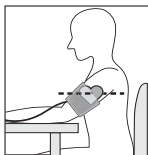

Fig.3
1. Sit at a table so that during blood pressure measurement your hand rests on its surface. Be sure that the cuff is placed approximately at the level of your heart and that your arm lies freely on the table and does not move (fig.3).